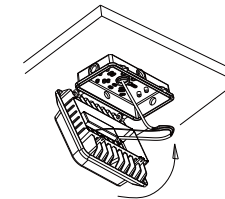

Figure 2-7
7. Turn the radiator up then cover the driver box, Figure 2-7